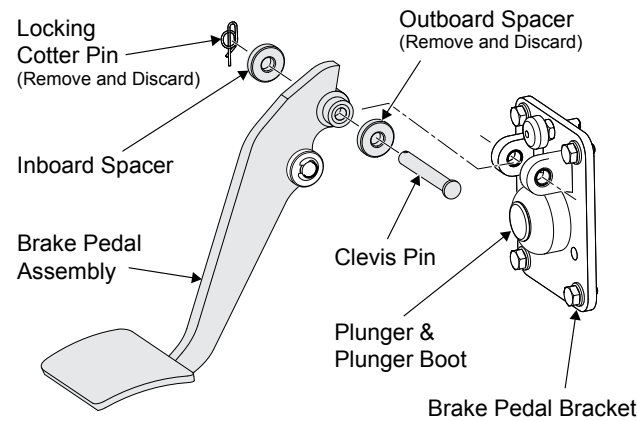

Figure 1
1. Locate the brake pedal (this recall covers dual-drive, right-hand stand-up brake pedal assemblies only) (See Figure 1).
4. Remove the clevis pin, outboard spacer and brake pedal assembly. Set aside the clevis pin and brake pedal assembly for reinstallation and discard the outboard spacer (See Figure 1).